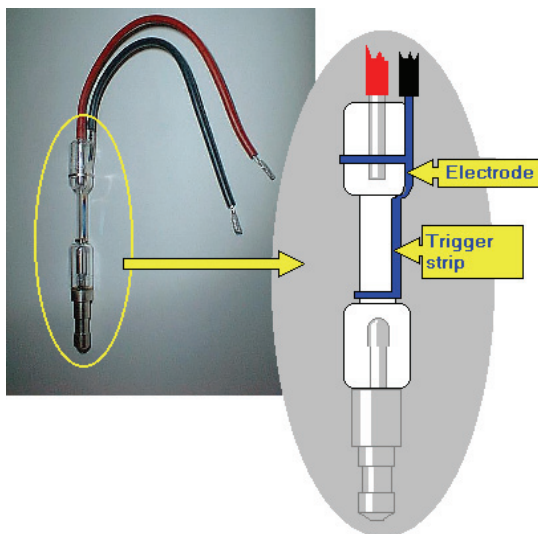
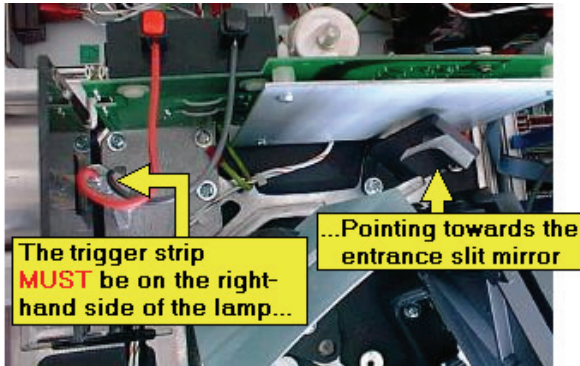

Figure 127 Details of the electrode
Figure 128 Aligning the electrode
10. Turn the lamp so that the trigger strip, as shown in Figure 127, is located to the right, pointing towards the small mirror next to the entrance slit, as shown in Figure 128.